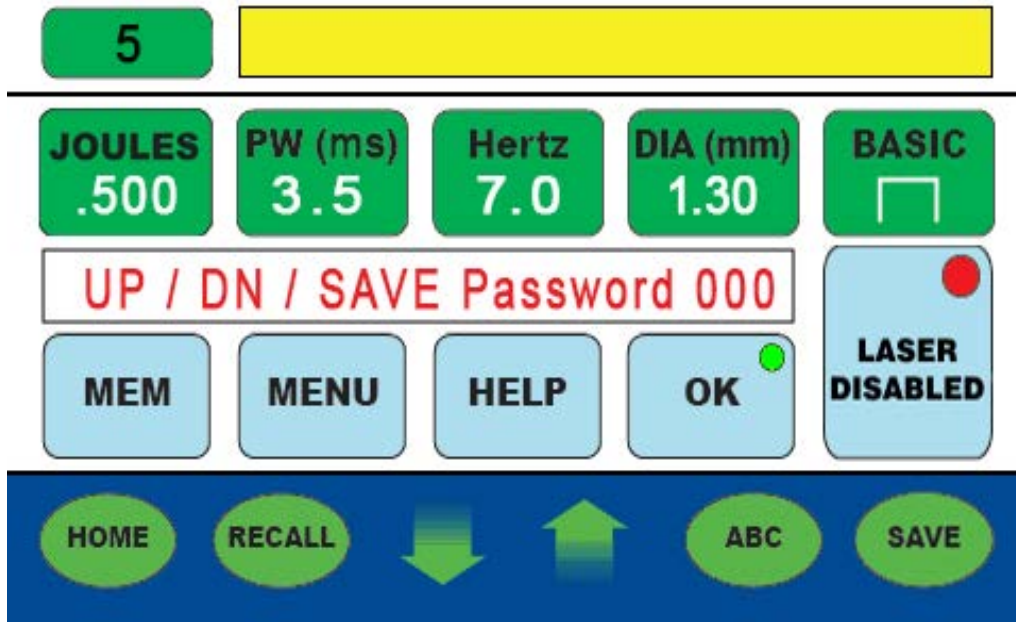

Figure 63
1. Press the menu button on the password screen; the first digit “4” will begin to blink (**Figure 63 on page 117**).